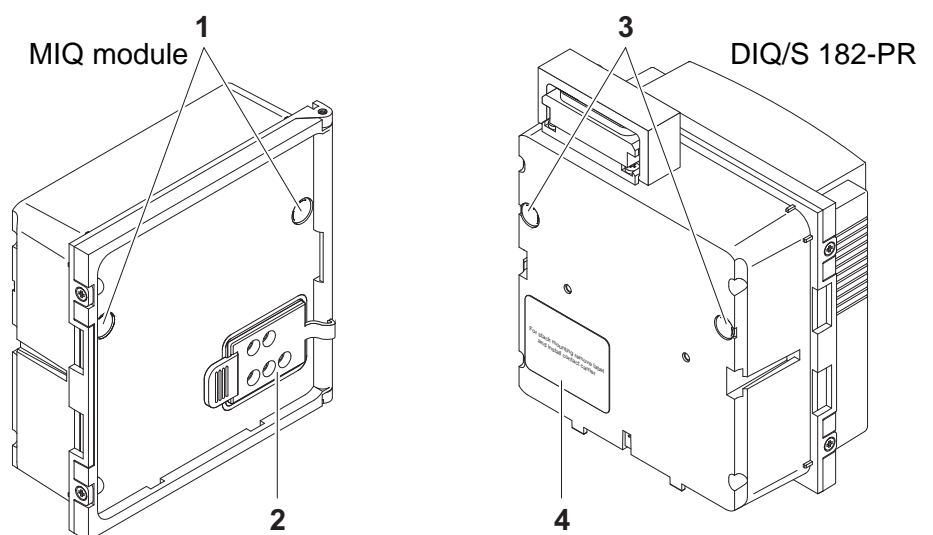

Fig. 3-1 Preparing MIQ modules for stack mounting (variant 1)
| 1 | Remove the covers from the drilled mounting holes (pos. 1 and 3 in Fig. 3-1). |